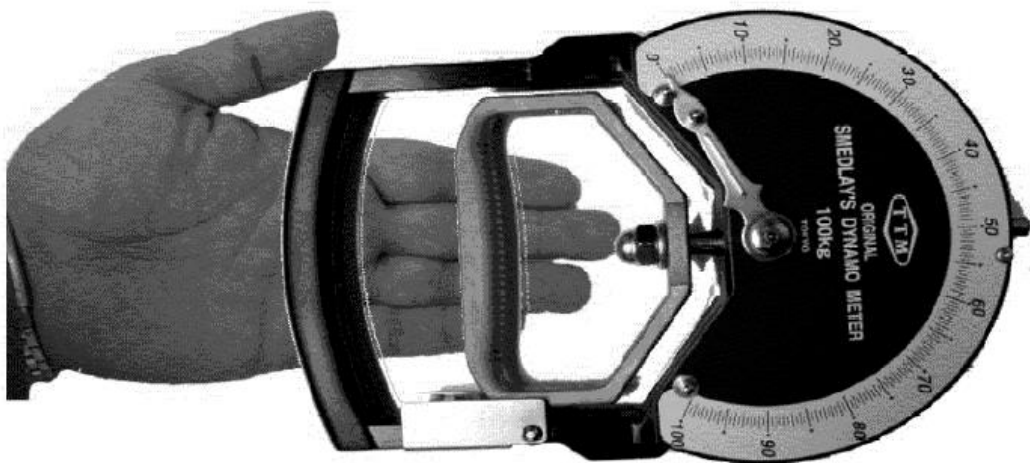

Figure 1 Aligning the gripometer with the hand
- a. Put the black bar of the gripometer on the pads at the top of their palm (see Figure 1).